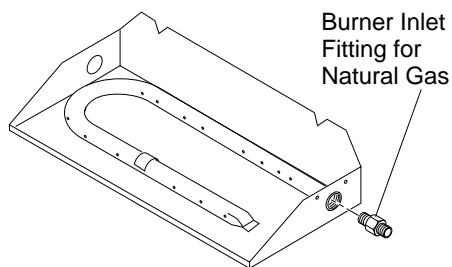
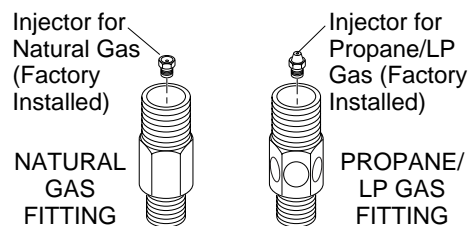

Figure 14 - Remove Burner Inlet Fitting
Figure 15 - Burner Inlet Fittings with Injectors
1. Remove the burner inlet fitting from the gas control assembly (see Figure 14). **DO NOT** remove the orifice from this fitting. The propane/LP burner inlet fitting is included in the hardware kit (see Figure 15).